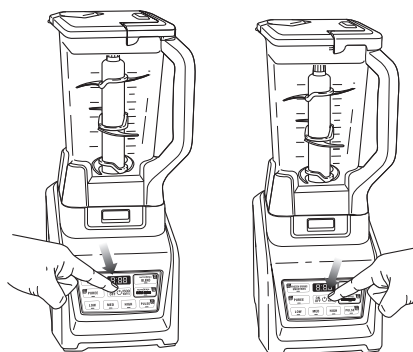

Fig. 7
- 11 Press the power button to turn on the unit. Select the speed or AUTO-iQ Program that best suits your needs. The AUTO-iQ program will stop the appliance automatically at the end of the program. (Fig. 7)